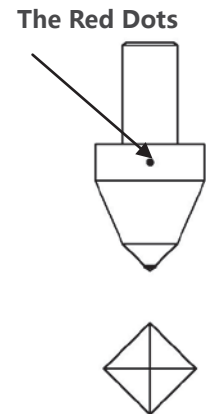

Fig 7
6.1.3 The round column of the indenter is marked with a red dot. If the indenter is once unloaded, take care to make the red dot face the frontal direction when it is reloaded, and the focus of the diagonal lines of the indentation should be aligned with the red dot. It is possible to make the alignment of the cross-shaped line in the eyepiece with the diagonal lines of the indentation. If the indentation observed is not aligned with the cross-shaped line, please unscrew the screw on the indenter, turn the indenter a bit and fasten the screw, and then make the alignment again through tests until the alignment is all right to your satisfaction (see Fig.7)